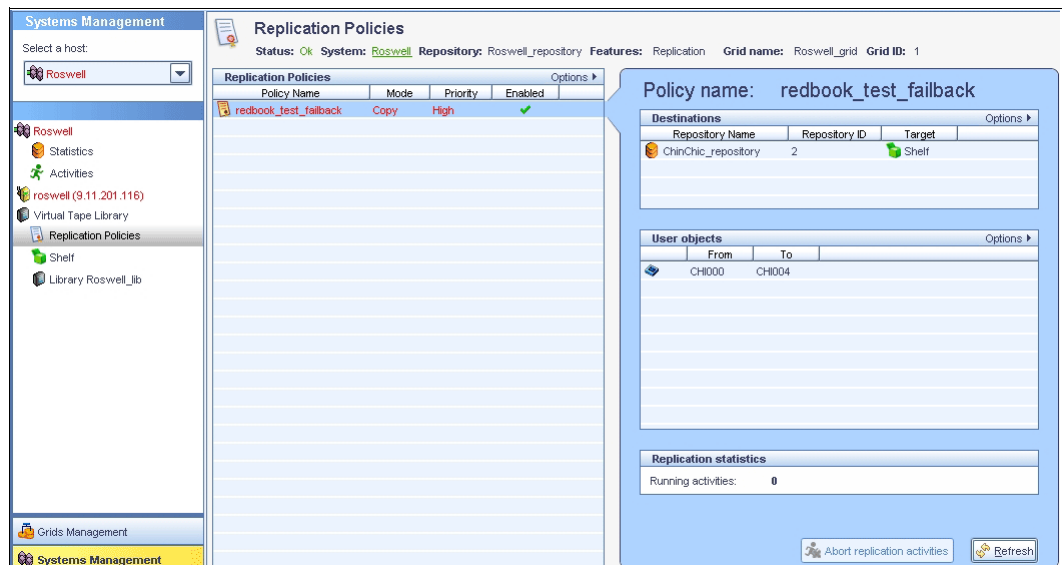

Figure 11-13 Failback policy
- No message is displayed after you create the failback policy. On the ProtecTIER view pane, click the DR repository, then **Replication Policies**. Here you see your newly created policy (Figure 11-13).